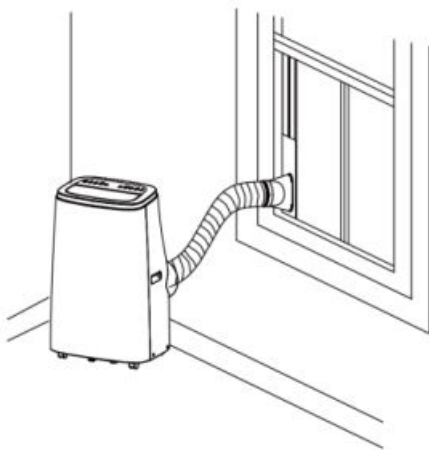
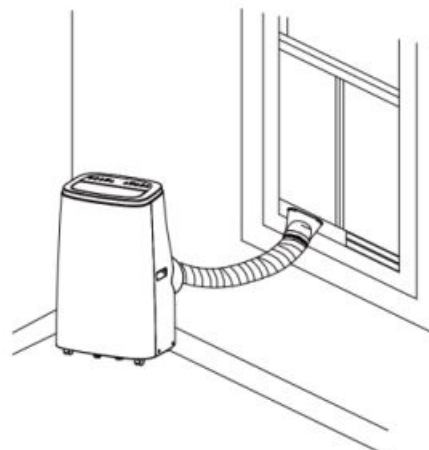

Figure 5
Figure6
3) Elongate the exhaust pipe and snap the flat end of the exhaust pipe joints into the hole of the window sealing plate assembly (as shown in Fig.5 and Fig.6) .